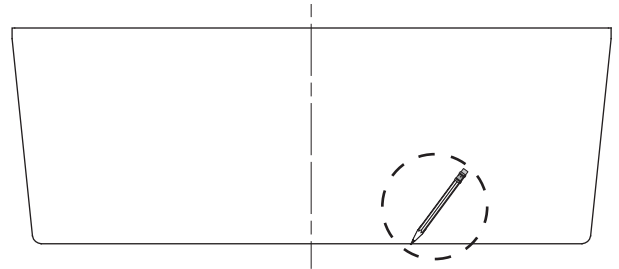

FIG. 1
- a Using an erasable pencil or marker, trace the outline of the base of the tub on the floor. (See **Fig. 1**)